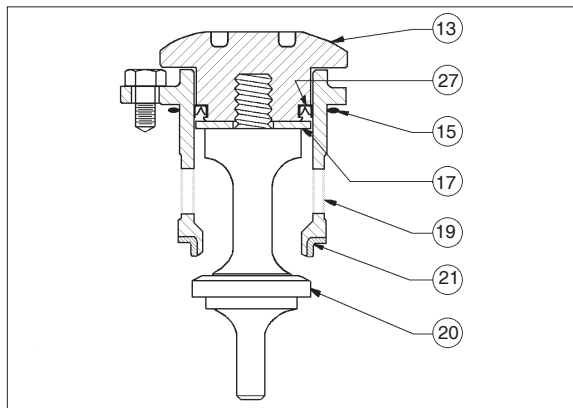

Figure 3: Assembled ITA,
- e. Remove wiper seal (16), if supplied, from within cage (19).
- f. Remove wiper washer (17.1) or camber adjusting washer (17.2), if supplied, from within cage (19).
- g. Remove o-ring lower stem seal (14.3) from plug (20).
- h. Remove seat ring (21); examine for signs of leakage. If seat ring (21) shows signs of significant leakage, determine if operating conditions of pressure, pressure drop, or temperature are exceeding limits.
2. Units with Metal Diaphragm(s) (See Fig 3):
- a. To disassemble the ITA, hold the lower part of the valve plug (20) in a bench vise; do not hold on the machined surface in the plug's (20) spindle area. (The spindle "slides" in the pressed-in-place lower guide bushing (24) and can not be allowed to be marred.)
- b. Using a special double-posted spanner wrench fitting (to order see NOTE in Section X, Parts Ordering Information), turn the piston-guide bearing (13) CCW to loosen; piston-guide bearing (13) can be removed by hand after loosening.
- c. Pull the valve plug (20) downwards out of the piston-guide bearing (13) and out thru the bottom of the cage (19).
- d. Remove the piston-guide bearing (13) from the upper end of cage (19).
2. Position piston-guide bearing (13) over and into upper end of cage (19) until the cap seal (27.1) edge touches the upper lip of the cage (19). While gently applying force to press the piston-guide bearing (13) into the cage (19), simultaneously use fingers to lightly press the u-cup seal (27.3) inwards into the groove of the piston-guide bearing (13) until the u-cup seal (27.3) "slips into" the cage (19). DO NOT USE TOOLS, LUBRICANT, OR HEAVY FORCE TO ENGAGE THE U-CUP SEAL (27.3) INTO THE CAGE (19).
4. Place properly oriented seat ring (21) onto its shoulder at the lower end of cage (19).
- a. Place new o-ring lower stem seal (14.3) into groove of valve plug (20).
- b. Insert valve plug (20) upwards through lower end of cage (19) and through the center hole in piston-guide bearing (13), also capturing the camber adjusting washer (17.2) or wiper washer (17.1) and wiper seal (16), if supplied. Hold plug (20) and cage (19) together.
- c. Place an oversized nut or stack of washers, the same approximate height of the upper diaphragm pressure plate (8) and the lower diaphragm pusher plate (10), over the upper end of valve plug (20) and temporarily secure with diaphragm lock nut (7), manually tightened. Do NOT allow valve plug (20) to rotate against seat ring (21) during tightening.
- a. Insert valve plug (20) upwards through lower end of cage (19) and through the center hole of camber adjusting washer (17.2) or wiper washer (17.1) and wiper seal (16).
- b. Engage valve plug (20) with piston-guide bearing (13) threads and tighten manually as far as possible.
- c. Place ITA into a vise with leaded jaws and grasp at a hub location on the valve plug (20) that is not in the "spindle" zone. (See Figure 3.)
- d. Using a special double-posted spanner wrench fitting (to order see NOTE in Section X, Parts Ordering Information), tighten piston-guide bearing (13) to the valve plug (20) with the following torque values. Do NOT allow valve plug (20) to rotate against seat ring (21) during tightening.
1. Place body (23) in a vise.
2. Reinstall internal sensing drilled plug (32) with compatible thread sealant.
3. Insert the lower piston spring (22) into the body (23), if supplied.
4. Fit the o-ring cage seal (15) into its body (23) groove.
5. With the ITA held manually in the closed position, insert ITA into body (23).
6. Properly align all three cage bolt (18) holes as there is only one circumferential location possible for this alignment. If a lower piston spring (22) is used, apply downward force to the top of the cage (19) until the ITA is lowered sufficiently to engage the cage bolts (18) into the body (23). Engage all of the cage bolts (18), then evenly screw in the cage bolts in one-half revolution increments to pull down the ITA evenly, taking care NOT TO "ANGLE" the ITA in the BODY. Torque the cage bolts (18) to 13-15 ft-lbs (17.6-20.3 N-m).